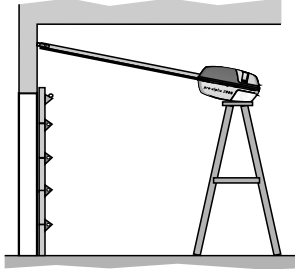

Fig. 21
4.4.3 Next Temporarily support the Power-head from the ceiling by means of a suitable rope or prop it up with a ladder as shown in Fig. 21